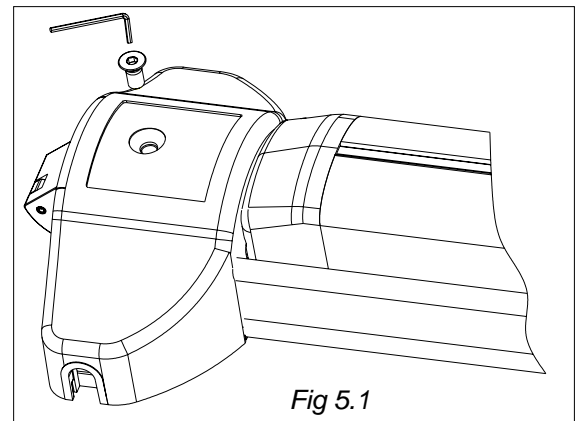

Fig 5.1
- 1) Using the supplied Allen key, remove screw and depress Touchbar to release front cover. (See Fig 5.1)